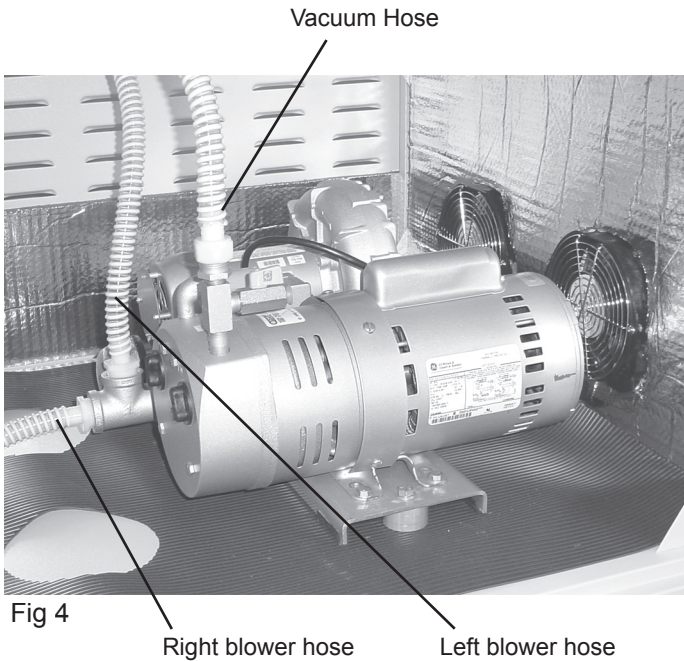

Fig 4
2. Connect the blower hoses (Fig 4) and feed thru the holes located on the infeed side of the base (holes are to the left if you are looking at the operator side of the burster).
3. Connect the vacuum hose (Fig 4) and feed up between the infeed of the burster and feed table support braces on the infeed side of the base (holes are to the left if you are looking at the operator side of the burster).